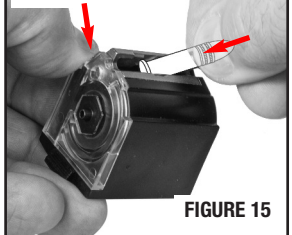

FIGURE 15
- Hold the first round load assist lever down as far as it can go and feed the first cartridge down and back - under the feed lips of the magazine (FIGURE 15).